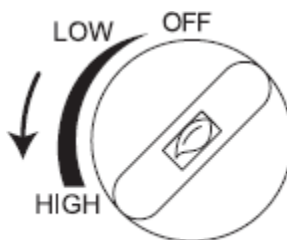

Fig. 4
- Turn the ignition knob anti-clockwise to position 'HIGH' until the piezo ignition device "clicks" and lights the burner. (FIG. 4)